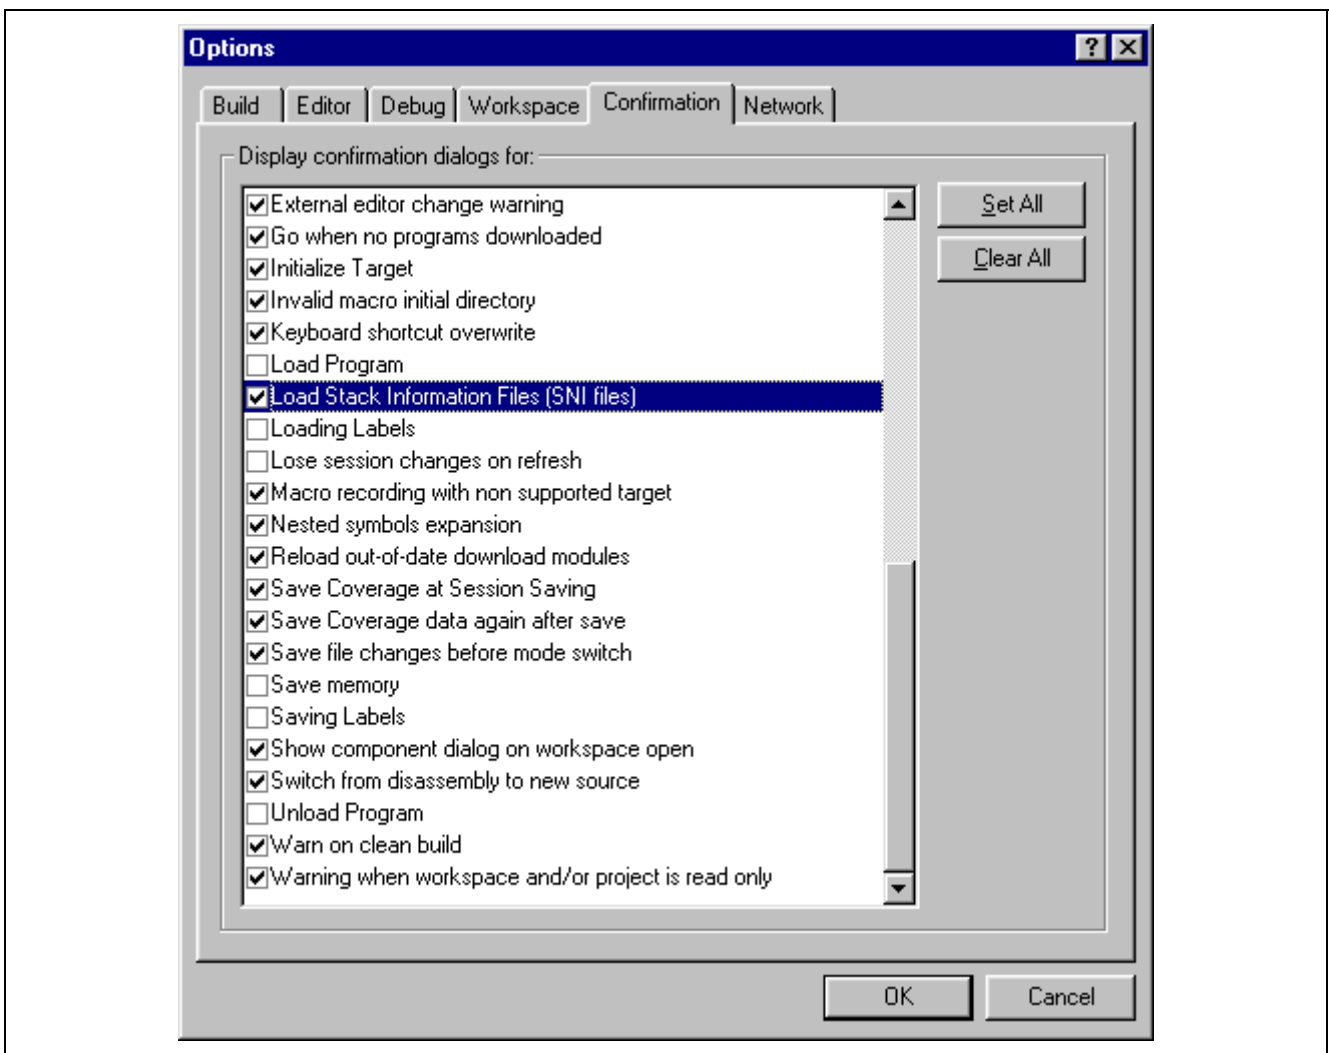

Figure 3.37 Options Dialog Box
- The [Load Stack Information Files (SNI files)] check box is checked in the [Confirmation] tab of the [Options] dialog box (figure 3.37) that can be opened by choosing [Setup -> Options...] from the main menu.